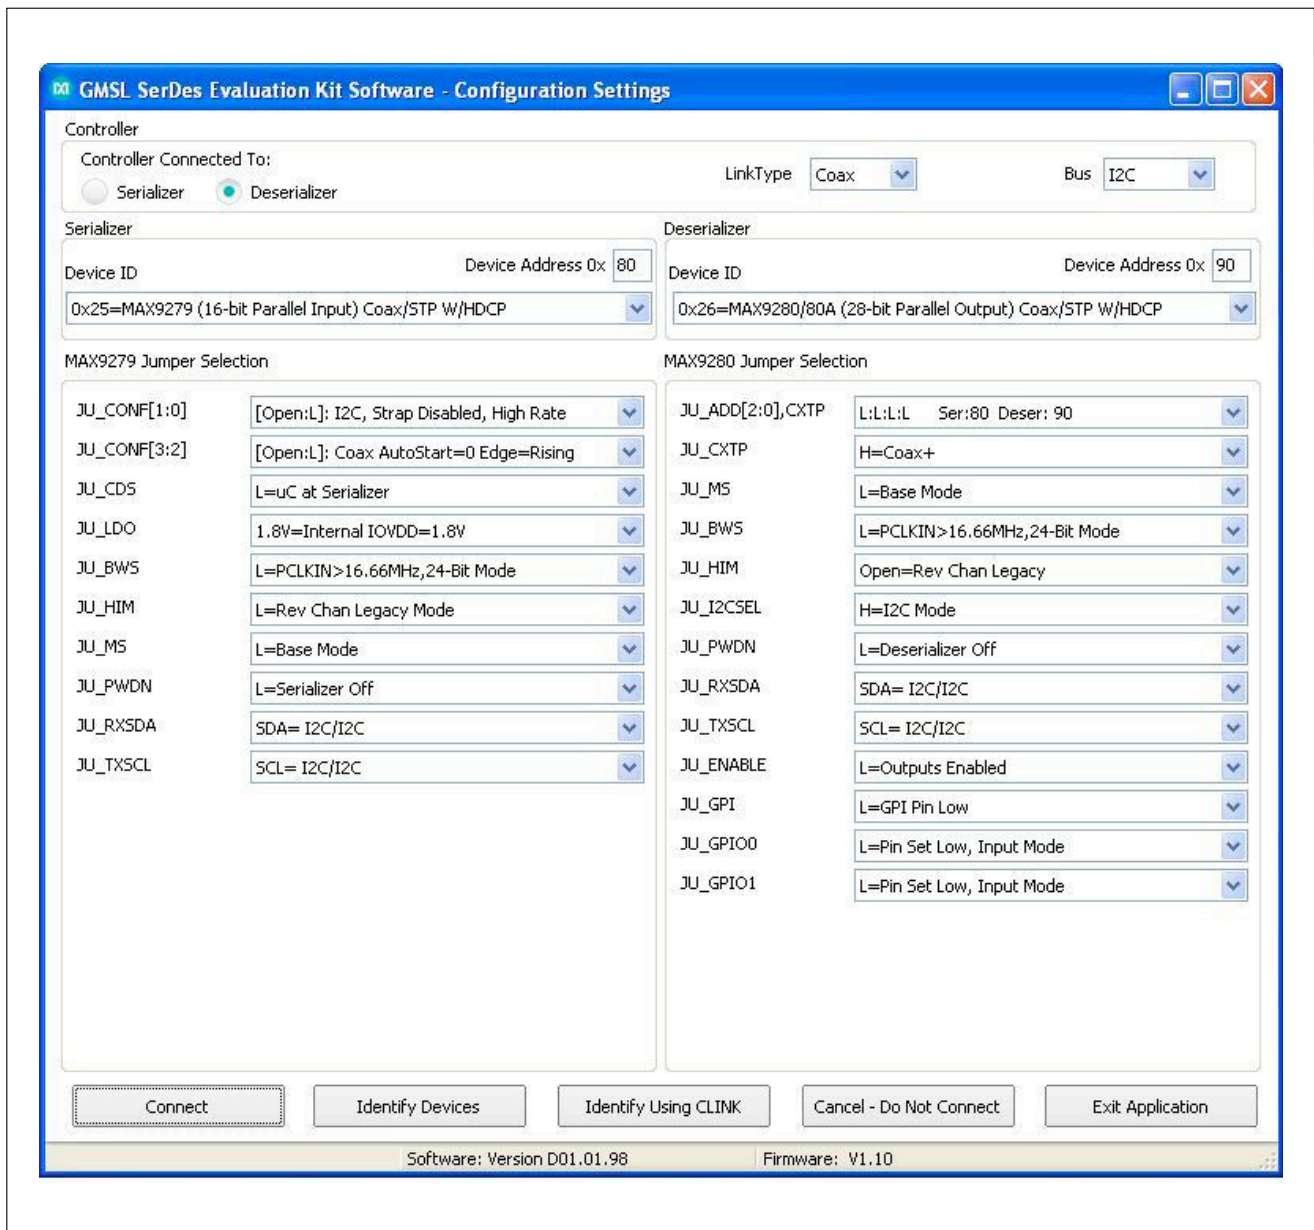
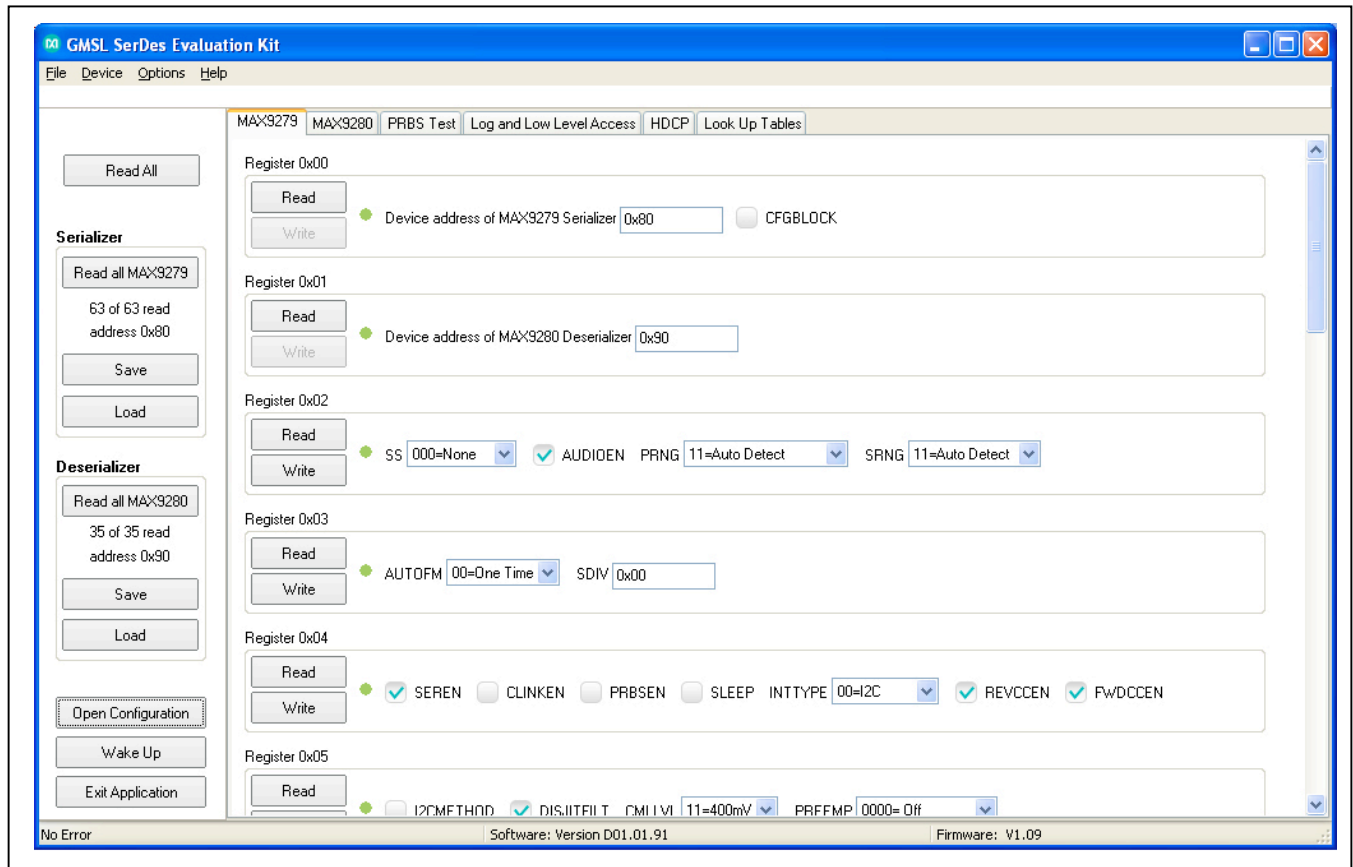

Figure 1. MAXSerDesEV-N EV Kit Software: Configuration Settings Window
Figure 2. MAXSerDesEV-N EV Kit Software: Evaluation Kit Window (MAX9279 Tab)
- 13) The EV kit software **Configuration Settings** window is the first window that opens after successful launch. It helps the user to set up the serializer and deserializer boards properly and specify the mode of operation (Figure 1).
- 17) I²C-to-I²C mode support: To enable I²C-to-I²C mode, change jumpers JU_CONF1 and JU_CONF0 (Figure 1), and change jumpers JU_TXSCL from the TX to SCL position and JU_RXSDA from the RX to SDA position. Press the **Identify Devices** button to verify proper settings. Alternatively, make the changes and select **I2C** from the **Bus** drop-down list before pressing the **Connect** button to start the **GMSL SerDes Evaluation Kit Window** (Figure 2).
The **Configuration Settings** window (Figure 1) is the first window that opens after program launch. It allows the user to specify evaluation board setup and mode of operation.
The **Evaluation Kit** window (Figure 2) provides access to all internal functions of the DUTs by means of reading and writing registers through different tabs, allowing the user to evaluate various functions of the SerDes.
The **MAX9279** tab (Figure 2) lists the serializer's registers and bit maps. **Read** and **Write** buttons in each register group box allows read/write access for each bit (or group of bits) that specify a function or condition, as defined in the